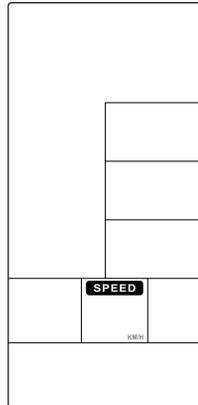

Figure 50
1. Hold down the "START" and "ENTER" keys for 2 seconds. The buzzer will emit a long beep, and the **SPEED** indicator will remain lit. The **KM/H** or **M/H** units will flash once per second (see Figures 50–51).